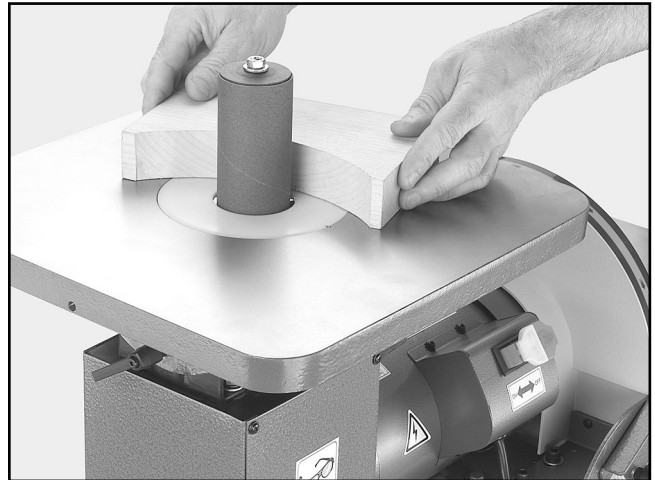

Figure 17. Spindle sanding.
5. Turn the power switch *ON* to start the spindle sander and begin sanding as shown in **Figure 17. DO NOT FORCE THE WORKPIECE AGAINST THE SANDING SLEEVE.**